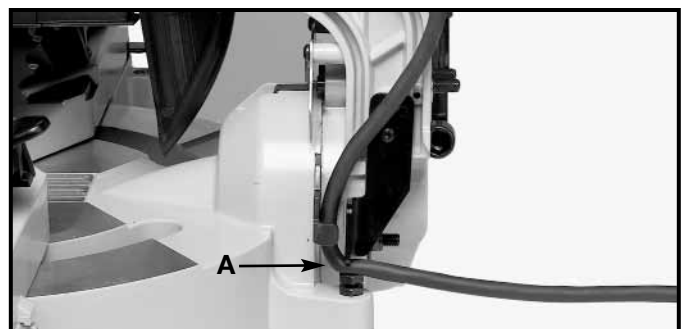

Fig. 23A
⚠ WARNING TAKE CARE NOT TO PINCH THE CORD (A) FIG. 23A WHEN TILTING THE CUTTINGHEAD.